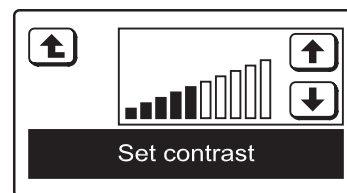

FIG. 28
5. Press the **SET CONTRAST** button and the display will change to show the **Set contrast** screen (See Figure 28).